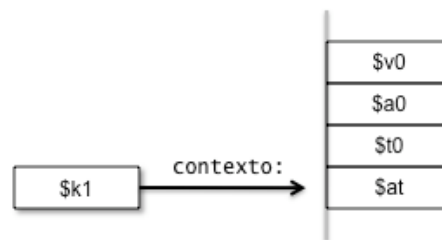

Figure 7. Register *\$k1* points permanently to the memory area where the context is saved
An important point: we are going to forbid user programs to use registers \$k0 and \$k1. We will use \$k1 as a pointer to the preserved context, as shown in figure 7. Register \$k0 is already reserved for a short but very important role: it contains the returning address to the user program to allow instruction jr \$k0 (the last one on the handler) working correctly.
- At the beginning of the handler code, where it says “save the user program context”, write the instructions that save the four register former mentioned into *context*, as shown in figure 7.